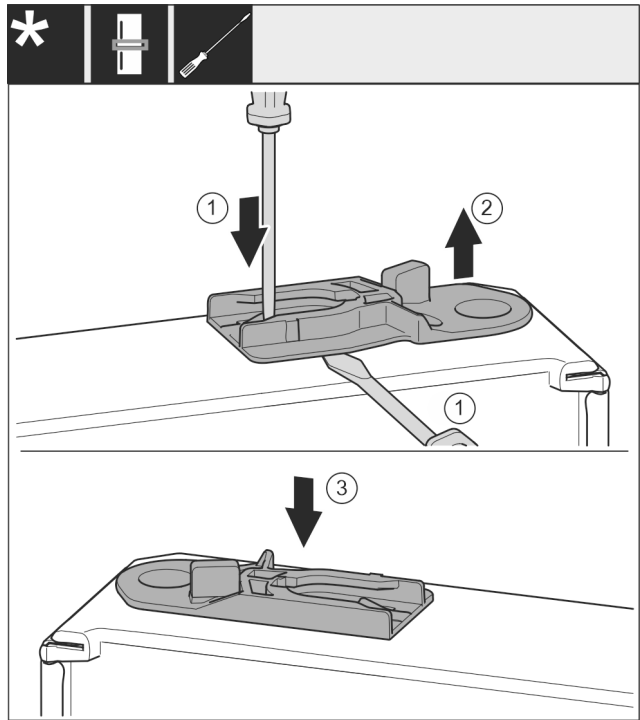

Fig. 53 \*
- ▶ Pull out the guide bush: Press the tab Fig. 53 (1) with a flat-blade screwdriver and at the same time move the flat-blade screwdriver under the guide bush Fig. 53 (2).\*
- ▶ Insert the guide bush Fig. 53 (3) supplied on the other side of the housing.\*